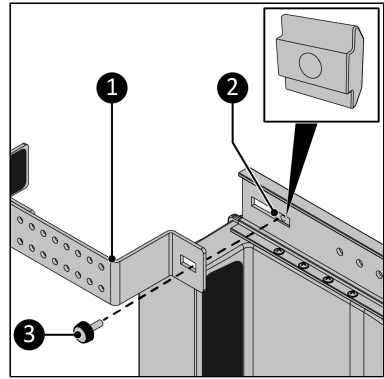

Figure 62.
7. Screw the bracket (Figure 62, pos. 1) to the main rail in the front position using the knob screw (Figure 62, pos. 3). Make sure you connect the knob screw to the slide nut (Figure 62, pos. 2).